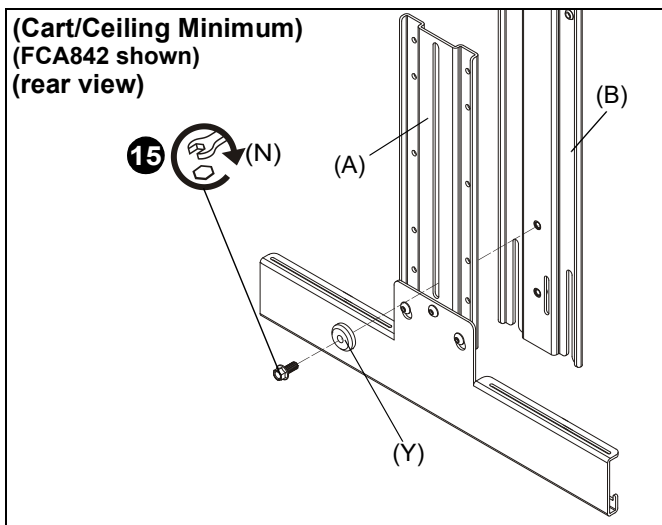

Figure 12
- (For **minimum extension**) Use 1/4-20 x 5/8" hex head flange bolt (N) and center washer (Y) to secure upright bracket (A) to main bracket (B). (See Figure 12)